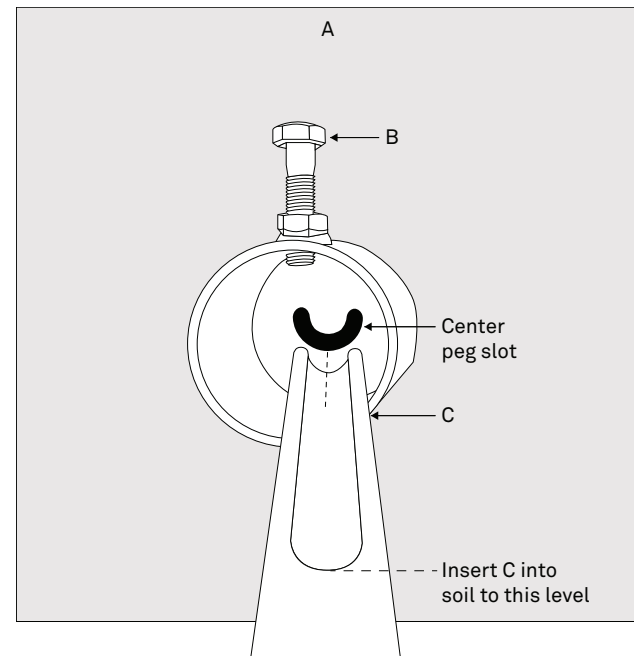

Figure 1 Set up the mast (E)
1. Set the base plate (A) in the desired level location.
2. Align the center peg (C) with the center peg slot (Figure 1).
3. Insert the center peg (C) firmly in the soil until the entire lower portion is under ground (Figure 1).
4. Place the mast (E) over the center peg (C) and seat the mast in the base plate (A) circular housing.
5. Carefully tighten the set screw (B) (Figure 1).
**NOTE:** Do not tighten the set screw (B) too tight. Doing so could damage the mast (E).